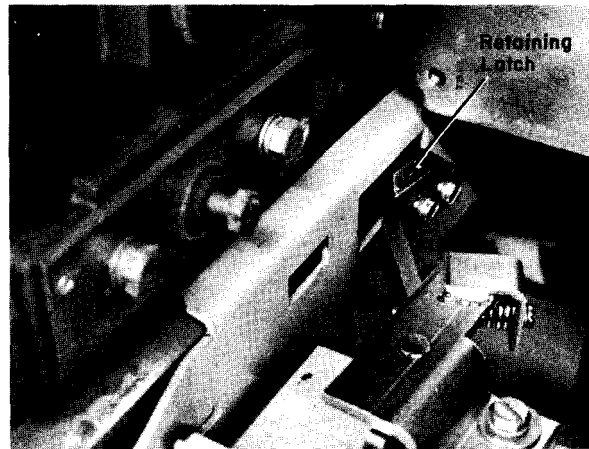

Fig. 45. Pulling on contactor positioning handle.
4. Pull the contactor forward against the retaining latch (Fig. 45 and 46).